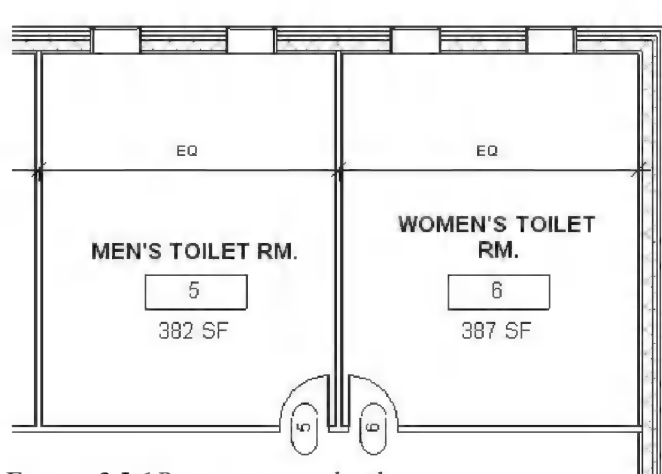

FIGURE 2-5.6 Room names updated
19. Switch to *Level 1* (if required) and **zoom in** on rooms 5 and 6 (Figure 2-5.6).